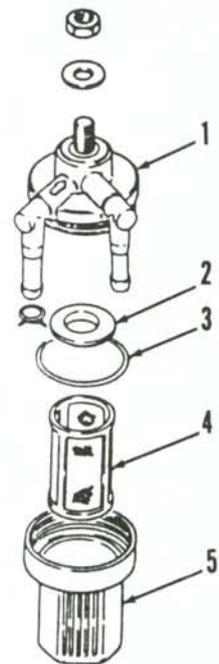

Fig. SZ11-37—Exploded view of fuel filter assembly.
FUEL FILTER. A fuel filter assembly is used to filter the fuel prior to entering the fuel pump. Periodically unscrew bowl (5—Fig. SZ11-37) and withdraw filter element (4). Clean bowl and filter element in a suitable solvent and blow dry with clean compressed air. Inspect filter element for excessive blockage or other damage and renew if necessary. Reassemble in reverse order of disassembly. Renew "O" ring (3) and seal (2) upon reassembly.